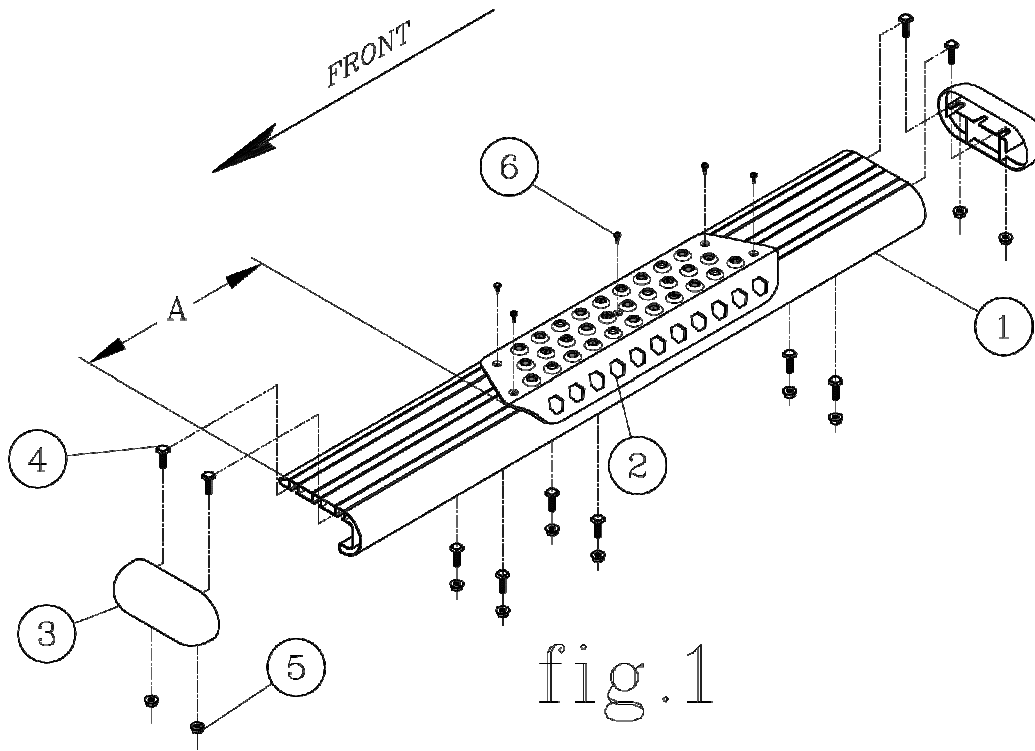

fig.1
3. BEFORE ATTACHING THE O-MEGA STEPS TO THE BRACKETS, PLACE THE STEP PADS (ITEM #2) ON TOP OF THE STEP PLATES. USE THE TABLE ON SHEET #2, AS A GUIDE TO POSITION THE STEP PAD FOR YOUR PARTICULAR VEHICLE. WHEN INSTALLING THE PADS ON THE STEPS, DRILL (5) 1/8" HOLE USING THE STEP PAD AS A GUIDE. ATTACH WITH (5) 8-18X1/2" TEK SCREWS (ITEM #6) PROVIDED. REPEAT FOR ALL STEP PADS.
5. INSTALL THE END CAPS (ITEM #3) AS SHOWN IN *fig. 1* SNUG UP THE NUTS. BE CAREFUL NOT TO DEFORM THE PLASTIC